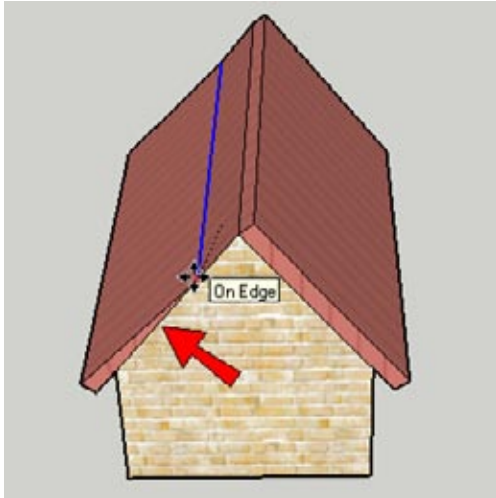

Figure 5-11
12. Hover over the lower edge of the same side of the roof, indicated in Figure 5-11.